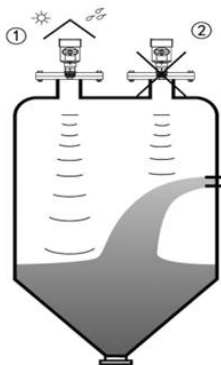

Figure 5
2.1 The conical tank cannot be installed above the feeding port (as shown in Figure 5). At the same time, it should be noted that shading and rainproof measures should be taken during outdoor installation.